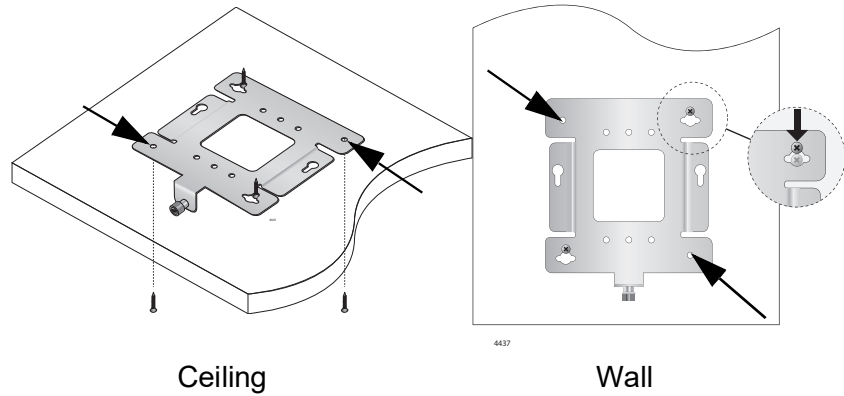

Figure 10. Pre-Drill Holes for Mounting Bracket
- Secure the physical position of the mounting bracket by pre-drilling holes through the two existing open bracket mounting holes in the opposite corners from the key-hole slots. Refer to the arrows in Figure 10.